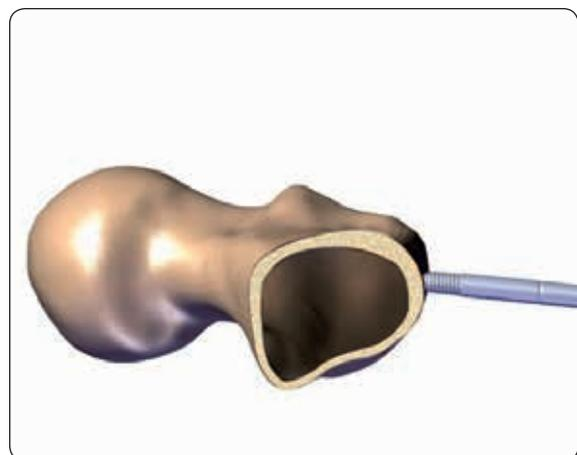

Fig. 3
**NOTE:** Check the correct position of the screw on the bone. Always attempt a perpendicular placement of the screw on the bone surface (Fig. 3).